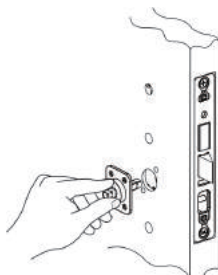

Figure 6
3. Insert inside adapter and plate assembly with lever spindle into square hole on inside of door. (Figure 6)